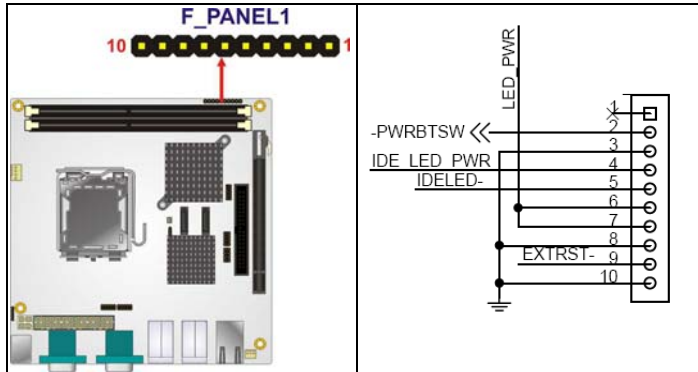

Figure 4-5: Front Panel Connector Location
- CN Location: See **Figure 4-5**